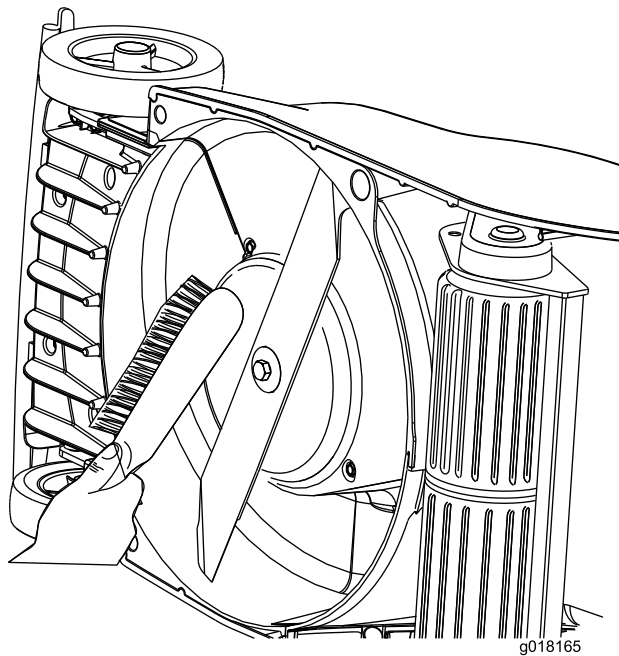

Figure 28
- Remove grass debris from the top and underside of the deck housing immediately after use (Figure 28).